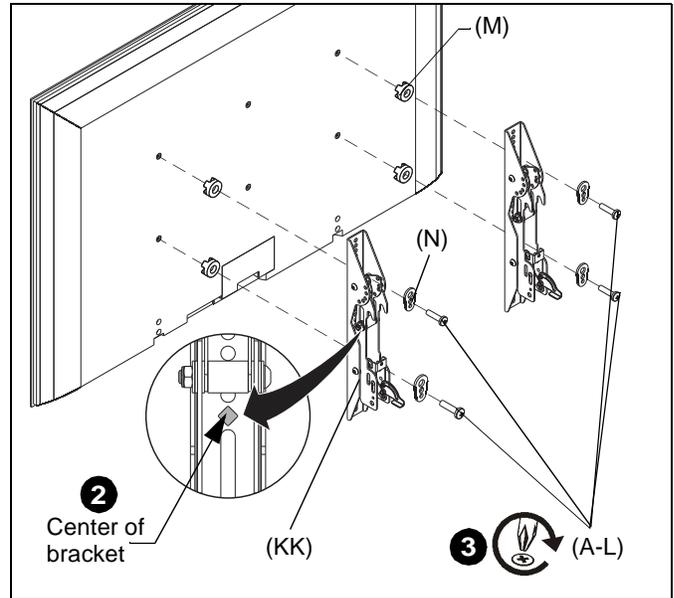

Figure 10
- Align the center of the interface bracket (KK) with center of screen. (See Figure 10)
- Select correct screws, spacers (if necessary) and universal washers from the hardware bag (A-N) and attach brackets (KK) to back of screen. (See Figure 10)